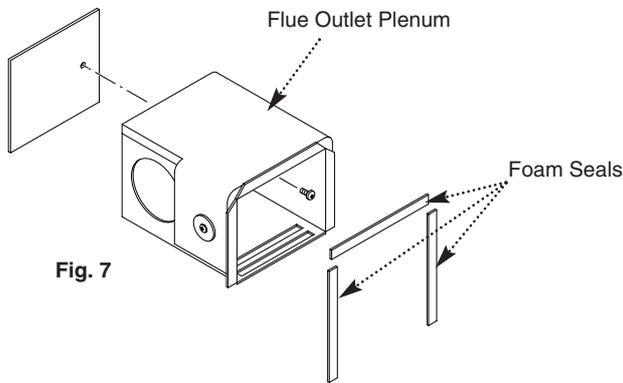

Fig. 7
15. Remove the old foam seals from the flue plenum flange and fit the seals supplied (Fig. 7).